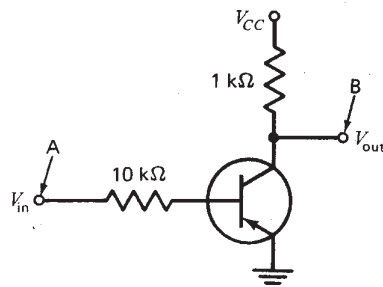

Fig. 59-4. Transistor switch.
4. Connect the circuit of Fig. 59-4. Apply the correct polarity of voltage to V_{CC} .